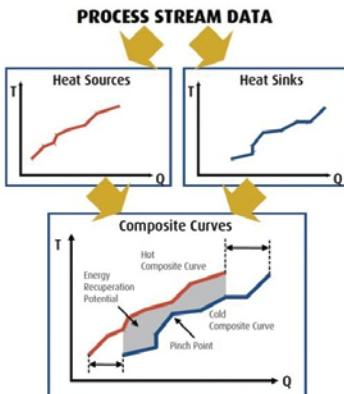

FIGURE 7. Pinch composite curves, like the one shown here, indicates the heat-recovery potential within a system (adapted from Ref. 1)
As shown in Figure 7, the pinch point is the temperature at which the hot composite curve and cold composite curve are the closest. Typically, the pinch point divides the temperature in two regions: heating utility and cooling utility.
- The overlap area (gray area in Figure 7) represents the heat-recovery potential through heat exchangers. There is no need to use heating utility or cooling utility in this area.